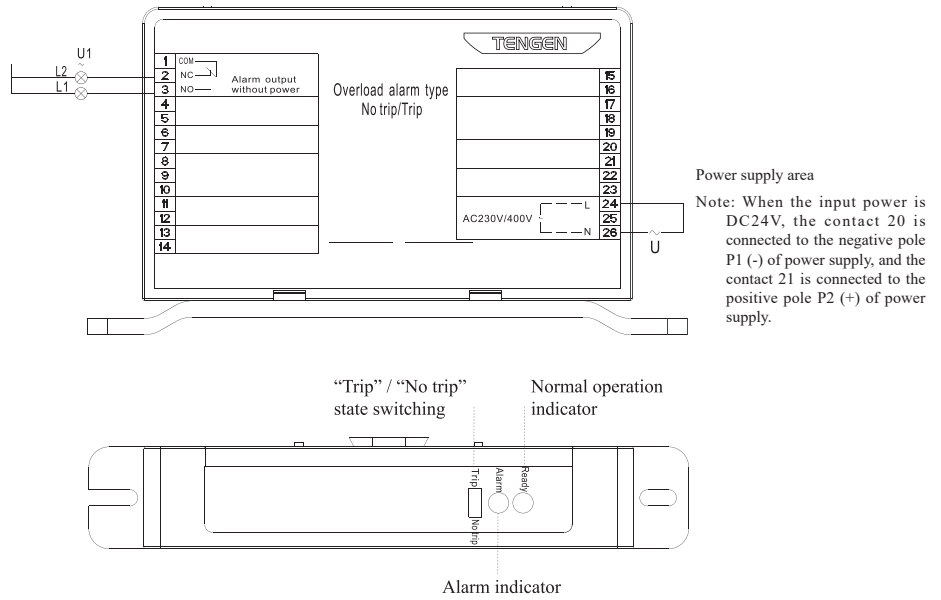

Fig. 6 Description of overload alarm non-trip module
8.6.4.1 Description of overload alarm non-trip module (see Fig. 6)
The function area of alarm output without power receives the signal from the body to indicate the circuit breaker alarm state. The contact 2 means a NC contact, the contact 3 means a NO contact, and the contact 1 means a common contact. When the circuit breaker works normally, the indicator L2 is lit and the L1 is off; when an alarm is issued from the circuit breaker, the indicator L2 is off, and the L1 is lit, as shown in Fig. 6.
With the toggle switch function, the alarm trip [Trip] and alarm non-trip [No trip] can be switched, as shown in Fig. 6. When the luminous tube is green lit, this indicates normal standby; when it is red lit, this indicates alarm function.